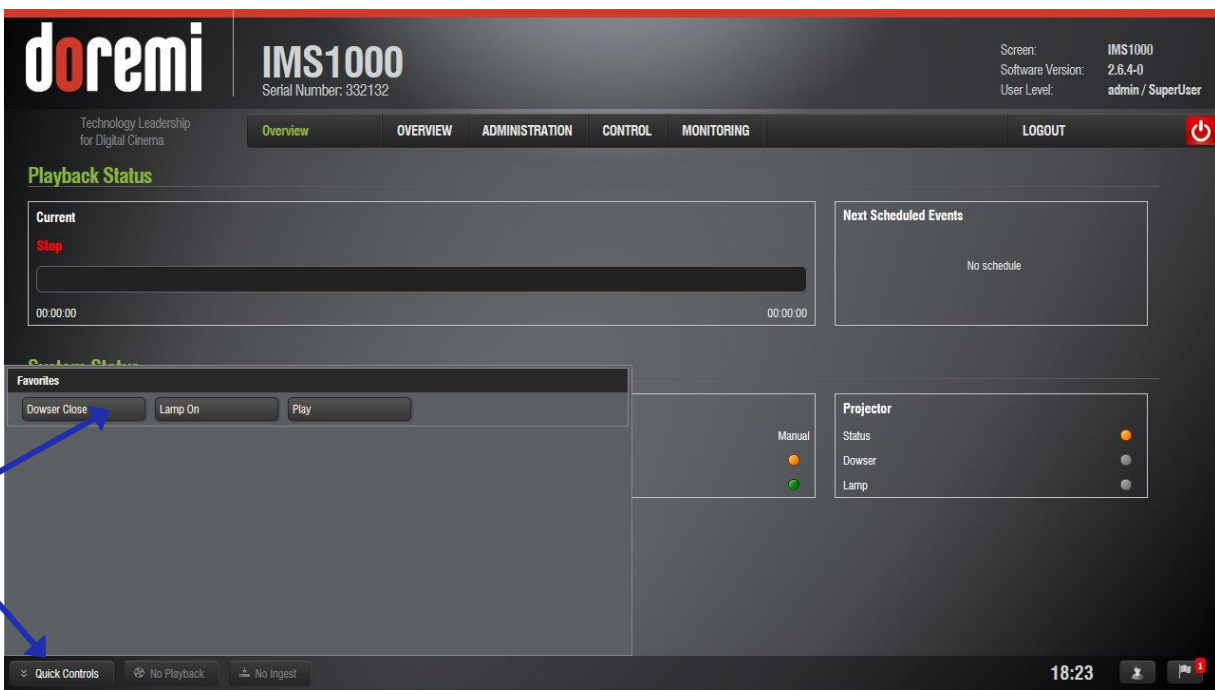

Figure 158: Quick Controls Window
- Click on previously created macro to execute it from any tab on the GUI (Figure 158).